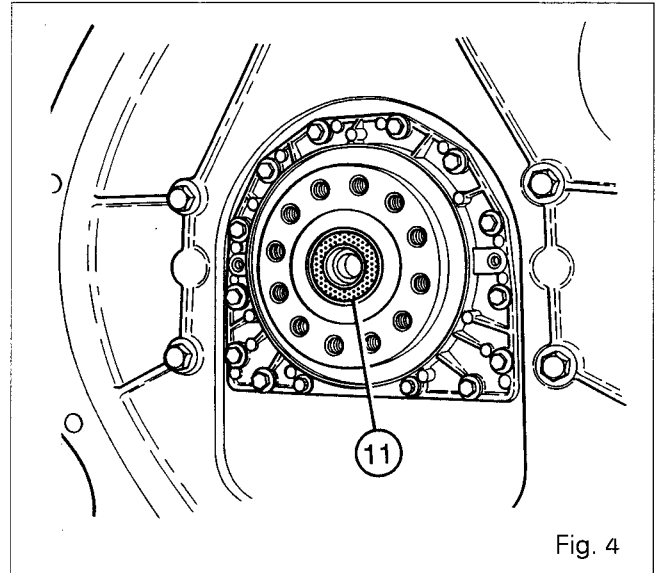

Fig. 4
2. Remove the bolts (8) and washers (5).
3. Remove the shock absorber. If necessary, use a suitable tool to extract the bearing (11) (Fig. 4).
4. Lightly coat the splines on the shock absorber (6) with grease of type GN + Molykote and refit it. Coat the washers and bolts with Loctite 270 and, then, fit them and tighten them to a torque of between 29 and 37 Nm.
If the bearing (11) (Fig. 4) is removed, it must be fitted using a suitable fixture pressing on the bearing's outer housing.